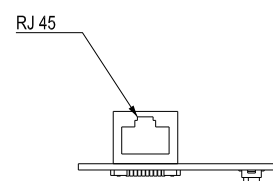

Figure 8-79
3. Connect a CAT-5e network cable to the RJ45 port on the CMC-EIP01 (See Figure 8-79).